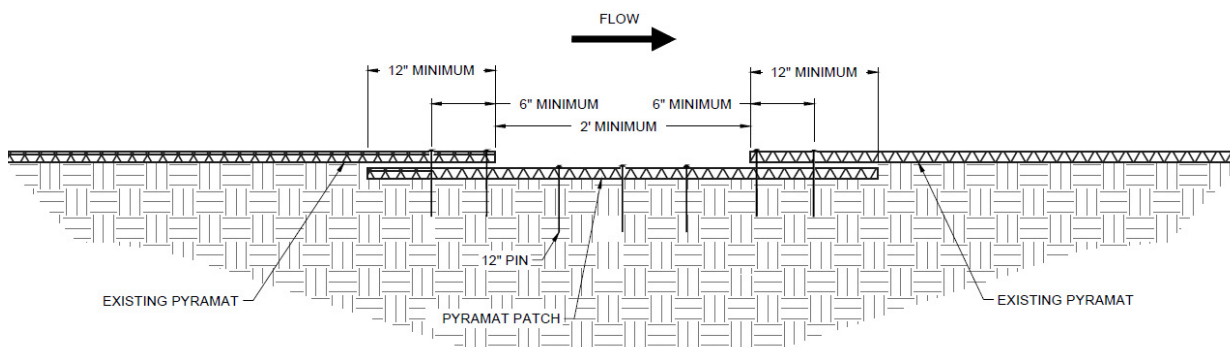
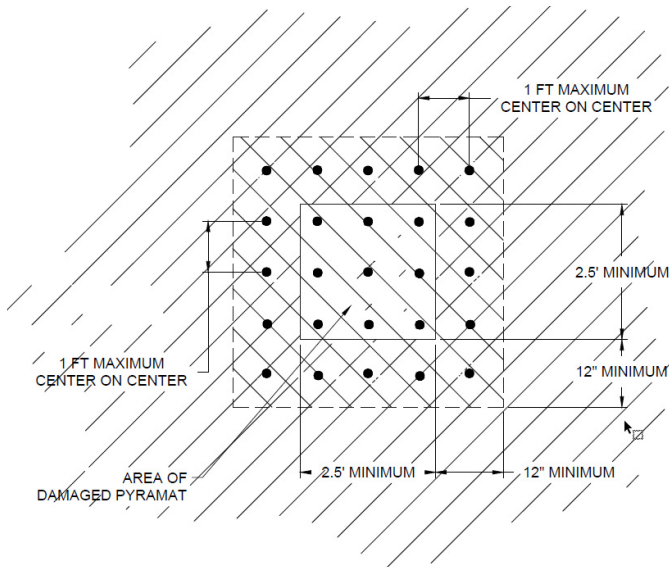

Figure 14: **PROPEX** Pyramat patch cross section
Figure 15: PROPEX Pyramat patch plan view
- A. Acceptable (A) - The rated area is in satisfactory, acceptable condition, and will function as designed and intended during the rain event. **PROPEX** Pyramat has no exposed edges, is installed tightly by maintaining direct contact to the slope surface with no drilling beneath, and has over 90% vegetation cover. There is no noticeable damage present.
- B. Minimally Acceptable (M) - The rated area has a minor deficiency that needs to be corrected. The minor deficiency will not seriously impair the functioning of the area during the next rain event; however, the overall reliability of the project will be lowered because of the minor deficiency. **PROPEX** Pyramat has 75% vegetation cover with unvegetated patches as large as one square yard. Edges of the material are exposed with noticeable damage. Minimal erosion has occurred underneath **PROPEX** Pyramat.
- C. Unacceptable (U) - The rated area is unsatisfactory. The deficiency is so serious that the area will not adequately function in the next rain event. **PROPEX** Pyramat has been physically torn, ripped, or lifted from the slope surface. Less than 75% vegetation cover is present with unvegetated patches being greater than 1 square yard, and there is evidence that erosion is occurring beneath **PROPEX** Pyramat.
3. To repair **PROPEX** Pyramat, cut out and remove damaged areas in a square configuration a minimum size of 2 ft by 2 ft (0.6 m x 0.6 m). Remove all vegetation and debris atop of the material. Loosen the top 1-2 in (25-51 mm) of soil in the patch area then seed. The subgrade of area to be patched shall be prepared to be smooth and uniform and transition smoothly into the in-situ area. Cut a square **PROPEX** Pyramat patch a minimum of 12 in (305 mm) greater than the damaged area for all four sides of the patch. Overlap the patch area in all directions a minimum of 12 in (305 mm). The patch overlaps shall be tucked under the existing damaged **PROPEX** Pyramat material (Figure 14 and Figure 15).